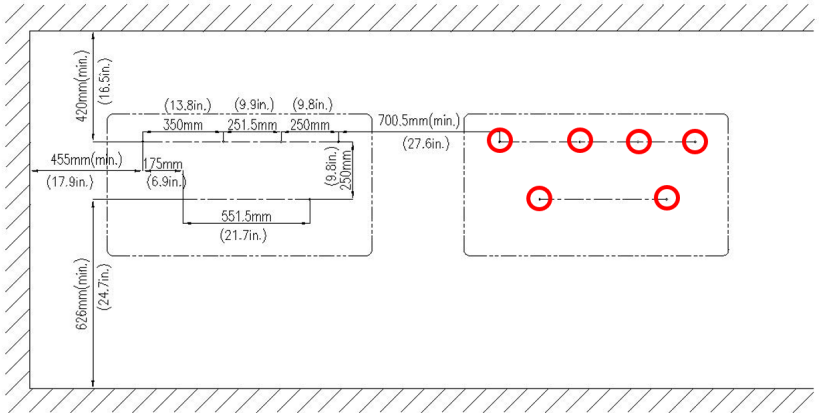

Figure 3-6a 100/125kW Standard Wire-box Bracket Mounting Pattern
- (1) Mark 6 holes on the wall or bearing surface for attaching the inverter mounting bracket as shown in **Figures 3-6a** and **3-6b**.